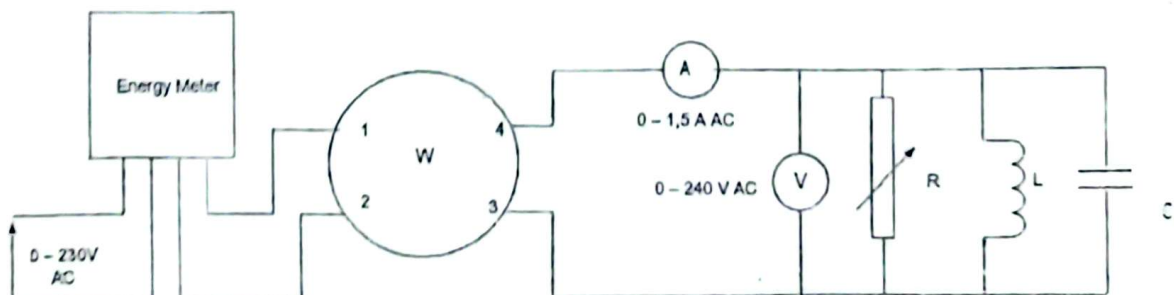

Figure 6: Power measurement on a parallel RLC circuit
Step 1 – Connect the capacitor module in parallel to R & L (Keep the values of the R & L unchanged) as shown in Figure 6. Turn on the power and set the voltage to 200V.